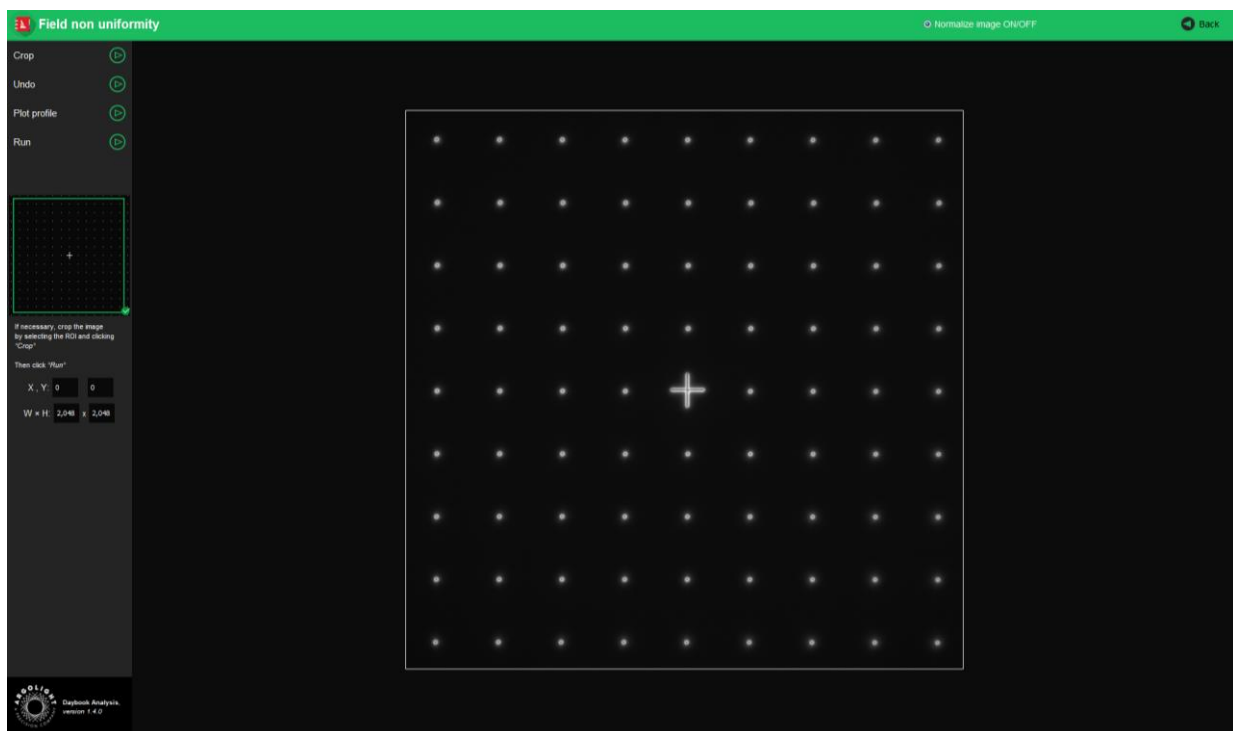

Figure 2: Crop window.
- e) By default, if one of the rows (or columns) of rings is incomplete or cropped, it will be discarded from the analysis. If needed, select a region of interest (ROI) and click on “Crop” to crop the image (cf. Figure 2).